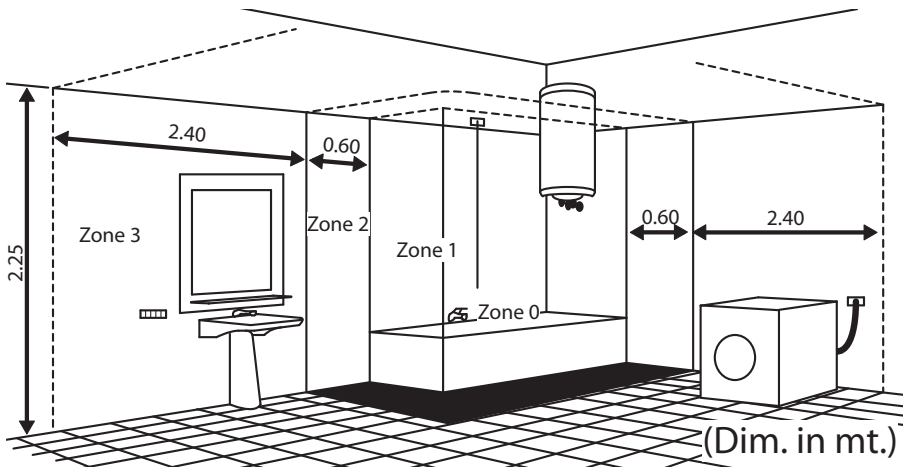

fig 1
- The heater is IPX4 rated and so should only be installed in bathroom Zone 2 or 3 (see fig 1).